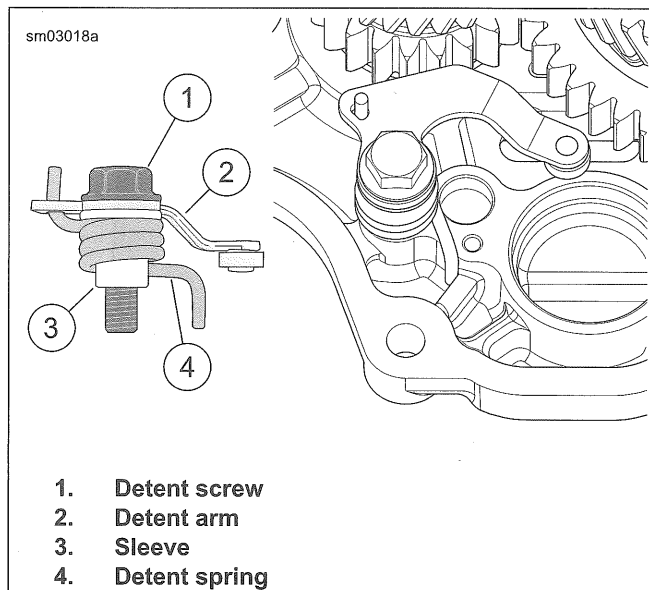

Figure 5-58. Detent Assembly
- a. See Figure 5-58. Clean detent screw mounting hole in transmission bearing housing.
- b. Assemble **new** detent screw (1), detent arm (2), sleeve (3) and detent spring (4).
- d. Install detent assembly in bearing housing with screw (1).